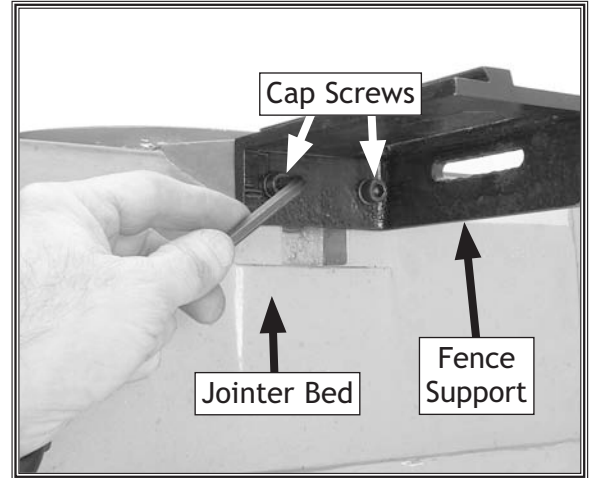

Figure 12. Attaching the fence support to the bed assembly.
2. Use two of the included cap screws and lock washers to attach the fence support to the jointer bed, as shown in Figure 12.